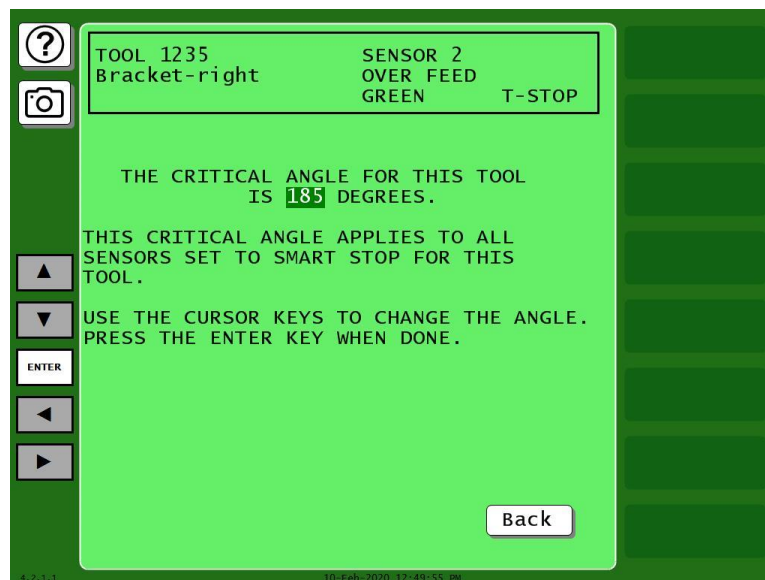

Figure 5-28. Critical Angle Programming Screen
1. On the Sensor Stop Type screen, select SMART STOP. The Critical Angle Programming screen, shown in Figure 5-28, displays.